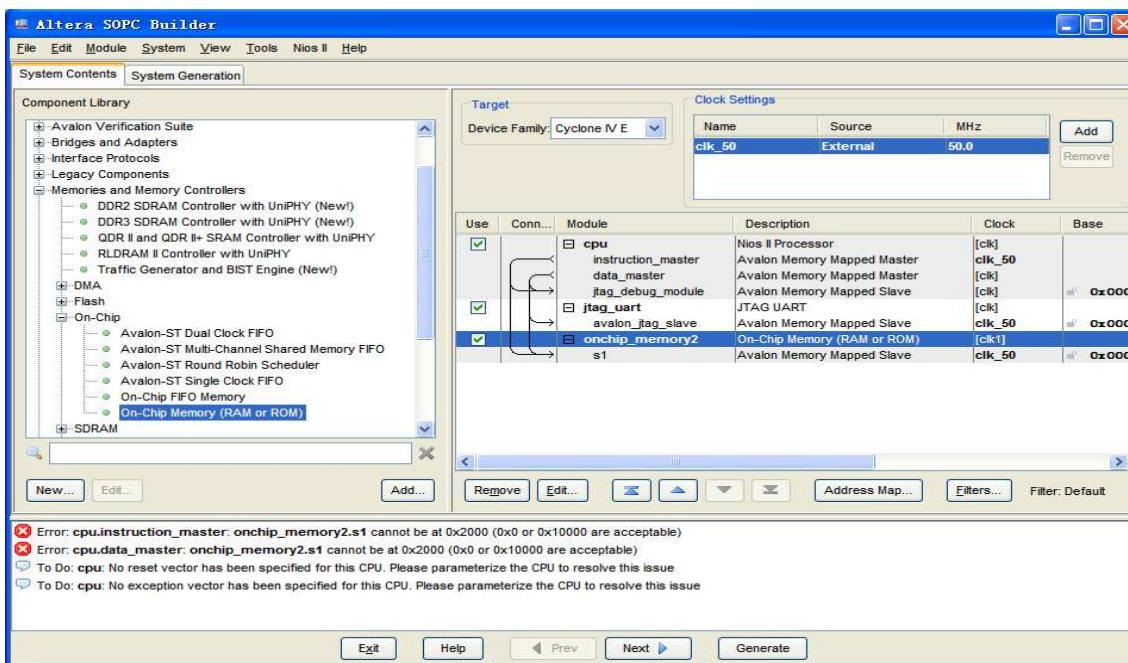

Figure 7-27 Rename On-Chip memory
17. Rename **onchip_memory2_0** to **onchip_memory2** as shown in **Figure 7-27**.